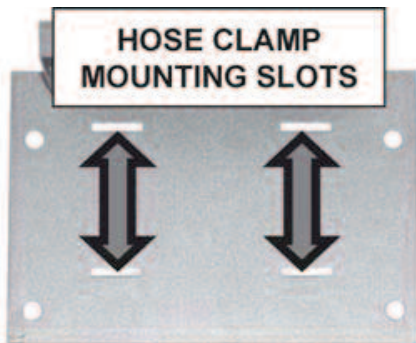

Fig. 15: Hose Clamp Slots
2. Lace metal strapping or clamps, (NOT PROVIDED) through the $\frac{3}{4}$ " slots on the cover and fasten securely to pipe as shown in Fig. 15 & 16. Do not over-tighten clamps.